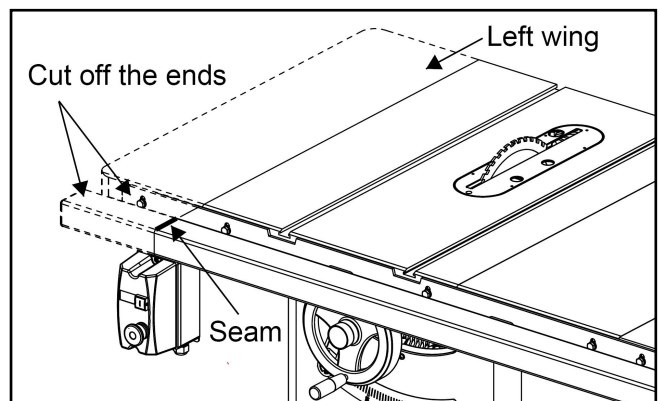

Fig.7
Method 2: Find the seam between the table and the left extension wing (or the left edge of the table if the wing is not installed). Mark the front rail, rear rail and main tube at 1/4" to the right of the seam (or edge). Cut off the ends of the rails as **Fig.7** (this is the easiest and fastest option).
4. If the power switch on your saw is mounted on the left as **Fig.7**, you may need to re-mount it to the bottom of the sliding table or other location. Mounting holes are reserved at the bottom of the sliding table to meet the installation requirements of the table saws listed in this manual.